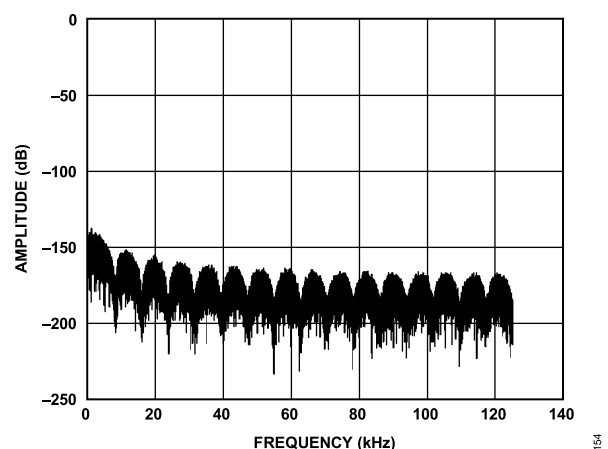

Figure 154. Example of Filter Profile Upload
The following sequence programs a Sinc1 filter. The coefficients in Address 0 to Address 23 = 0. The coefficients from Address 24 to Address 55 = 131,072 ( $2^{22}/32$ ). When MCLK = 16.384 MHz and ODR = 256 kHz, the filter notch appears at 8 kHz and multiples of 8 kHz. This filter provides low noise and is recognizable by the distinctive filter profile shown in Figure 154.
17. Gather data. Figure 154 shows the resulting filter profile.